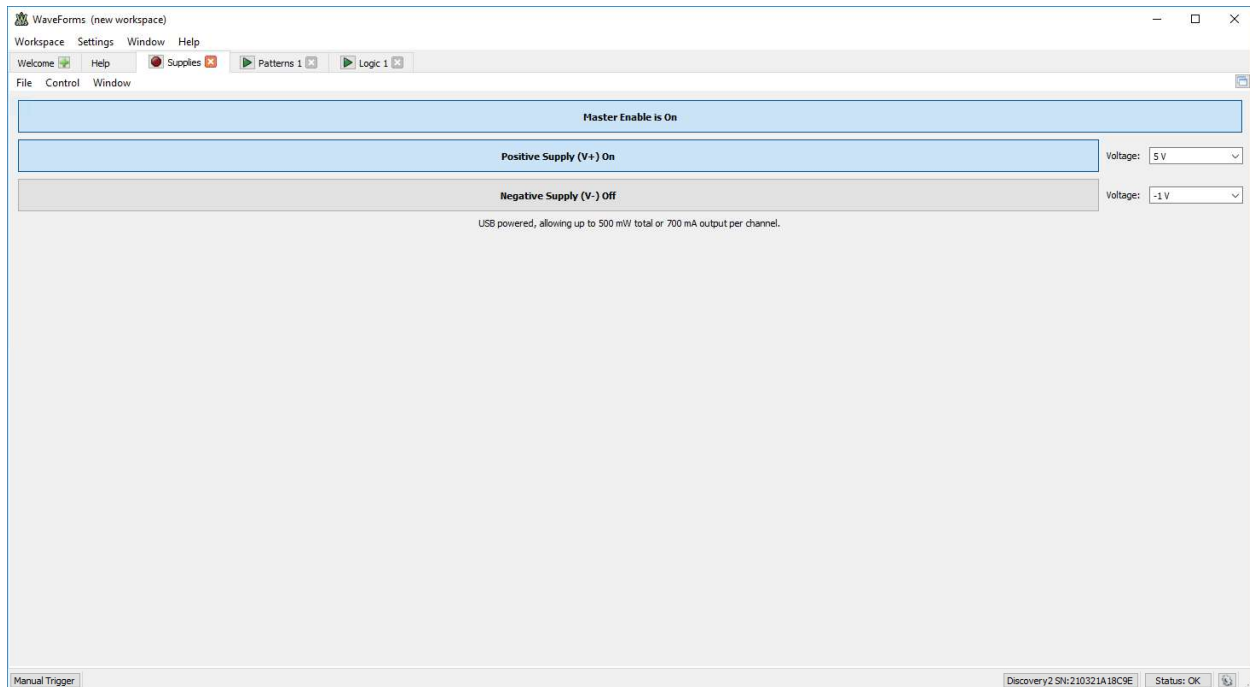

Figure 9: Power Supply Enabled at 5V
9. **Turn on** a 5V positive power supply in the Supplies tab. Standard 7400 logic chips expect a 5V energy to gate onto output signals. **Note** that there may be a “current surge” error message when the power supply is first turned on. If this occurs, just try again. **Refer** to Figure 9.